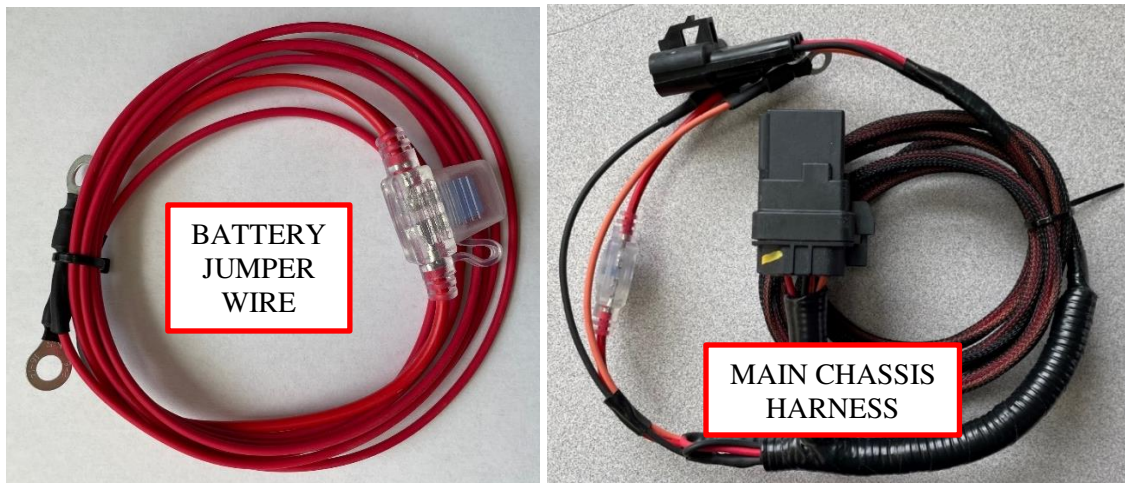
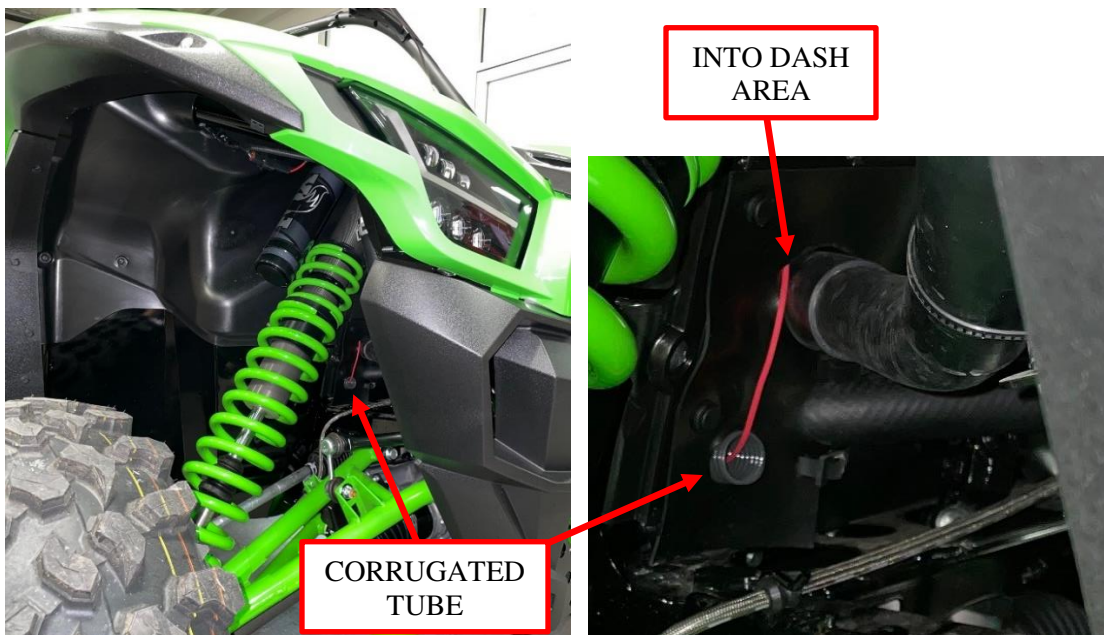

Figure 8: Battery jump wire and main chassis harness.
Figure 9: Wire goes into corrugated tube and into dash area.
7. Remove the corrugated tube cap at the front passenger side fire wall. Route the front end of the battery jumper wire, shown in Figure 8, into the opening toward the dash where the radiator tube goes through the fire wall and the other end into the corrugated tube. See Figure 9.